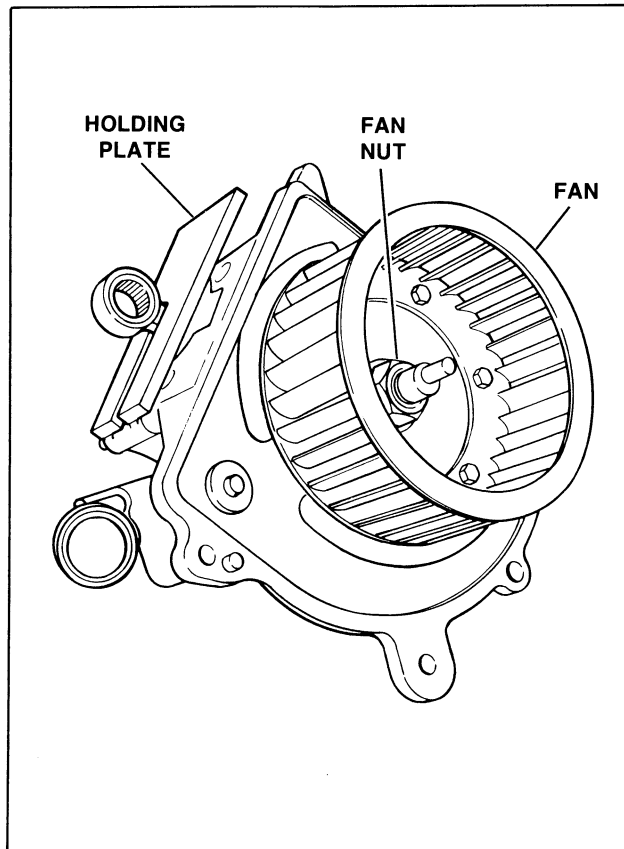

Figure 63 - Fan Removal
- f. See Figure 63. Place the CONNECTING ROD HOLDING PLATE, Part No. 94403-80, under rod upper end and remove the fan nut and fan.
- See Figure 63. Install fan (2) on the ignition module side of the crankcase. Using the CONNECTING ROD HOLDING PLATE, Part No. 94403-80, install the fan nut (2). Tighten the fan nut to 50-70 ft.-lbs. torque. Inspect and clean fan spacer. If needed, replace.